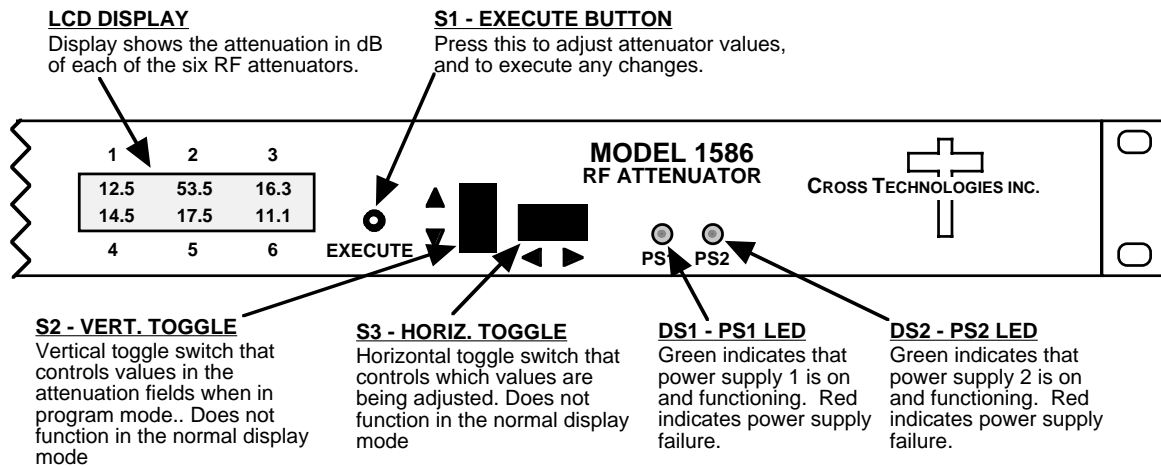

FIGURE 2.2 1586-06 Front Panel Controls and Indicators
- 5.) Be sure DS1 and/or DS2 (DC Power) is green (Figure 2.2).
This section describes operation of the front panel controls. There are three operator switches and the LCD display. All adjustments for the equipment are controlled by these components. Alarm indications appear on the LEDs (see figure 2.2).